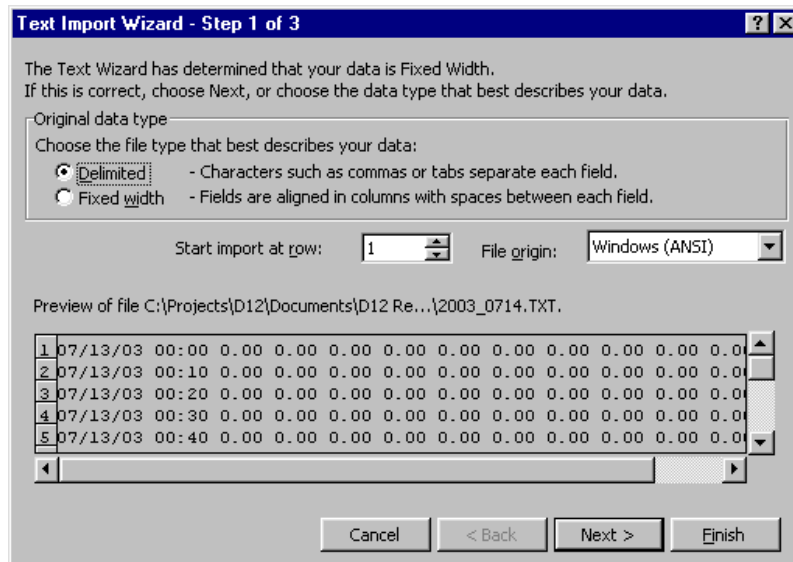

Figure 108: Step 1 - text import wizard
3. When the *Text Import Wizard – Step 1 of 3* screen appears, configure the settings as shown in Figure 108 and click **Next**. Note that the values in your report file will be different than those shown in the figure.